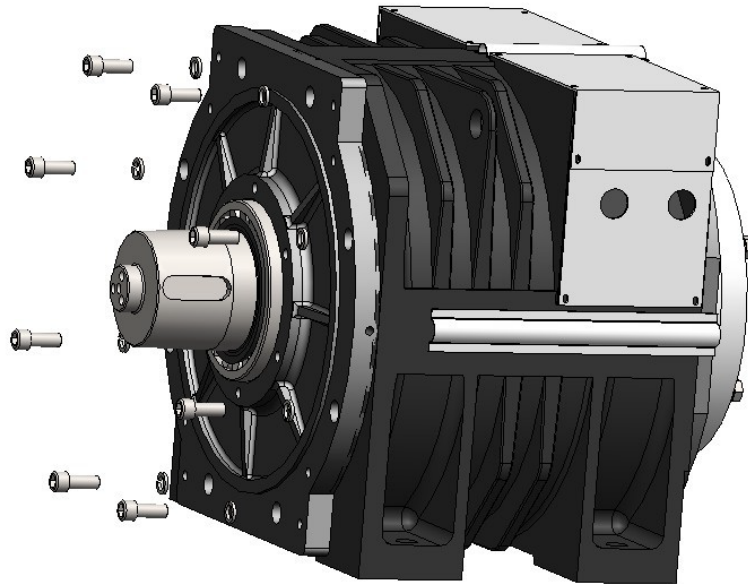

Figure 79 Remove Front Cover bolts
6. Make a mark in the Front Cover and machine base. Remove 8 hex screws M16x40 with hex wrench (14mm). See Figure 79.